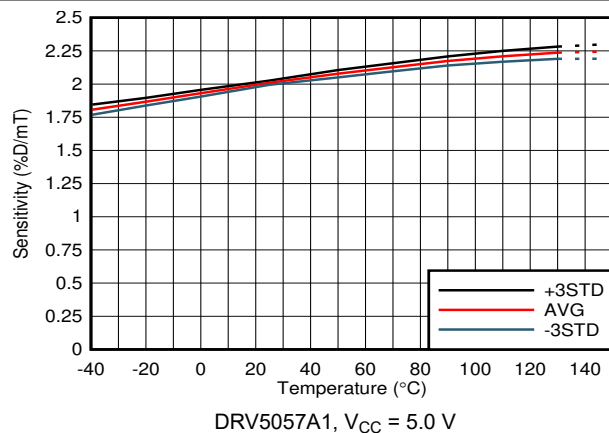

图 6-7. Sensitivity vs Temperature
(1) B is the applied magnetic flux density.
(2) See the § 7.3.2 section.
(4)  $S_{TC}$  describes the rate the device increases Sensitivity with temperature. For more information, see the § 7.3.4 section and 图 6-7 to 图 6-20.
(5) Product Preview data only for DRV5055Z1 - DRV5055Z4 device options.